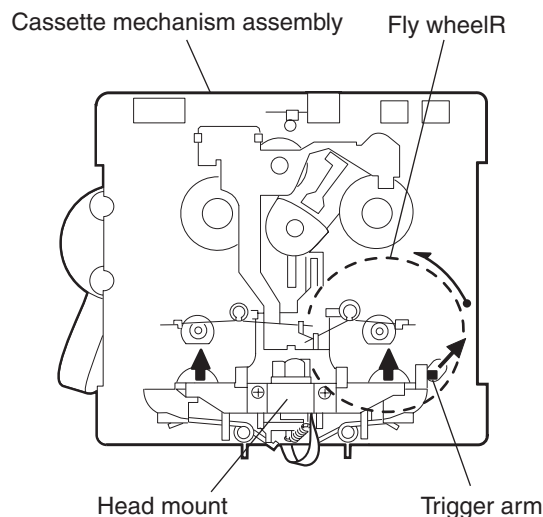

Fig.1
■ Removing the Play/Record & Clear head (See Fig.1~3)